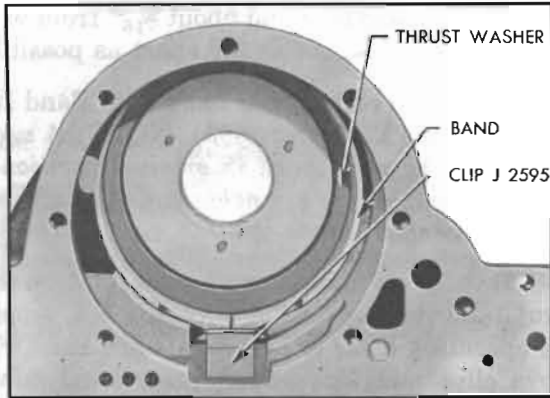

Figure 5-88—Ring Gear Thrust Washer and Reverse Band Installed
2. Compress ends of reverse band with Band Installing Clip J 2595 and install in case. See figure 5-88. Remove the clip. NOTE: *Reverse*